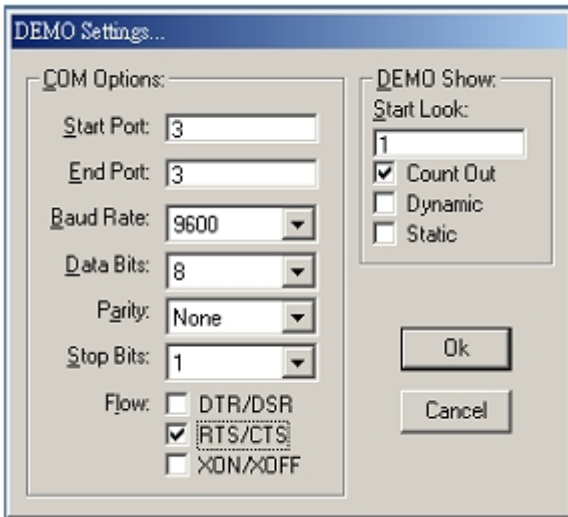

Fig.7
Step3.Click the “Setting” to set the RS232 loop counter (See the Figure 7); your system will detect COM3.